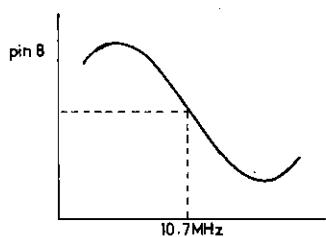
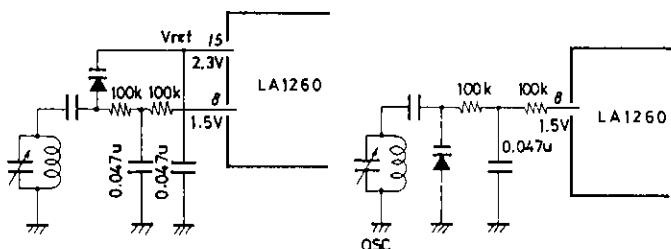

Fig. 1
Fig. 2 Domestic (lower local oscillation) band
- The values recommended for the detection coil are shown below. (See Fig. 1.)
The S curve at the FM output pin (pin 8) is as shown in Fig. 1. Therefore, the domestic (Japan) band (lower local oscillation) use and foreign band (upper local oscillation) use differ as shown in Figs. 2 and 3.